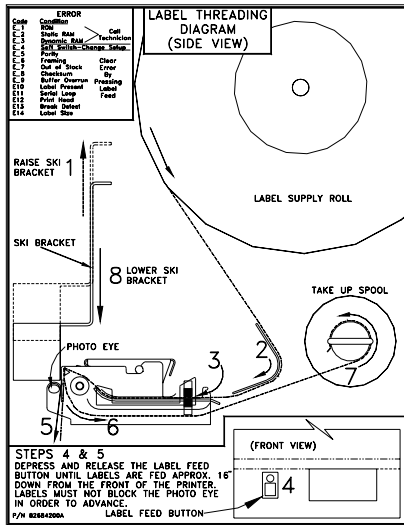
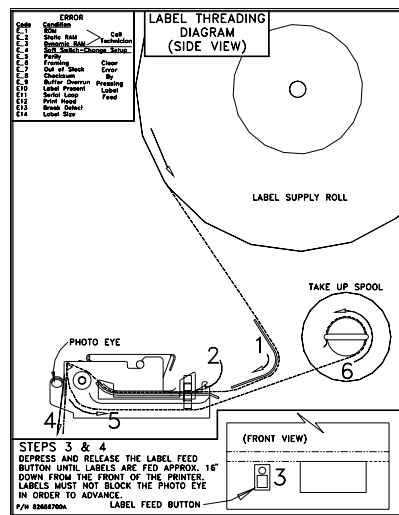

Figure 2-3: Label Threading Diagram
Figure 2-4: Label Threading Diagram
Open the side cover of the printer and refer to the Label Threading Diagrams in Figure 2-3 or 4-4, or the loading instruction label located on the inside of the Model 317 cover. It is not necessary to unlock the printhead to load paper stock into the Model 317.
- 1) Remove the liner take-up clip from the take-up spool (Figure 2-3 #7, Figure 2-4 #6). On units with Applicator, raise the Ski Bracket (Figure 2-3 #1).
- 4) Route the labels around the rear guide (Figure 2-3 #2, Figure 2-4 #1). Insert the end of the paper through the Gap Sensor and into the rear label guides of the printer engine (Figure 2-3 #3, Figure 2-4 #2). Manually feed approximately 2 1/2" of paper stock into the mechanism. The paper will stop when it reaches the platen roller.
- 5) Press the label feed button (Figure 2-3 #4, Figure 2-4 #3). Gently push the label stock into the rear of the mechanism until the label feeds out the front of the mechanism. Feed out approximately 16 inches of labels, straight down from the stripper bar without blocking the Take Label Sensor (Figure 2-3 #5, Figure 2-4 #4). If the label stock will not feed out the front then there may be a label jam inside the mechanism. An orange Status LED indicates a blocked label taken sensor.
- 6) Remove the labels from the liner and insert the liner back into the printer (Figure 2-3 #6, Figure 2-4 #5). Wind the liner around the take-up spool and secure with the liner clip (Figure 2-3 #7, Figure 2-4 #6).